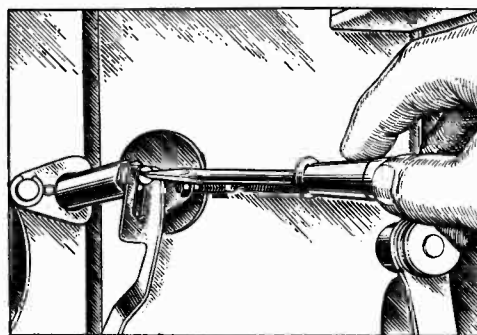

Figure 12—Adjusting height of elevator shaft
- (b) Improper adjustment of elevator shaft. The elevator shafts should rise to such a height as to give  $\frac{1}{16}$ " clearance between the lowest surface of the elevator pad bottom and the top of the empty magazine. This adjustment can be made by means of the screw and lock nut as shown in Figure 12.